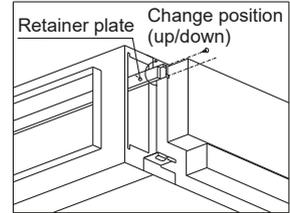

Fig.2
- (2) When using filter box PAC-KE63·80·140TB-F (using filter: high-efficiency filter), change the position (up/down) of the retainer plate. (Fig. 2)